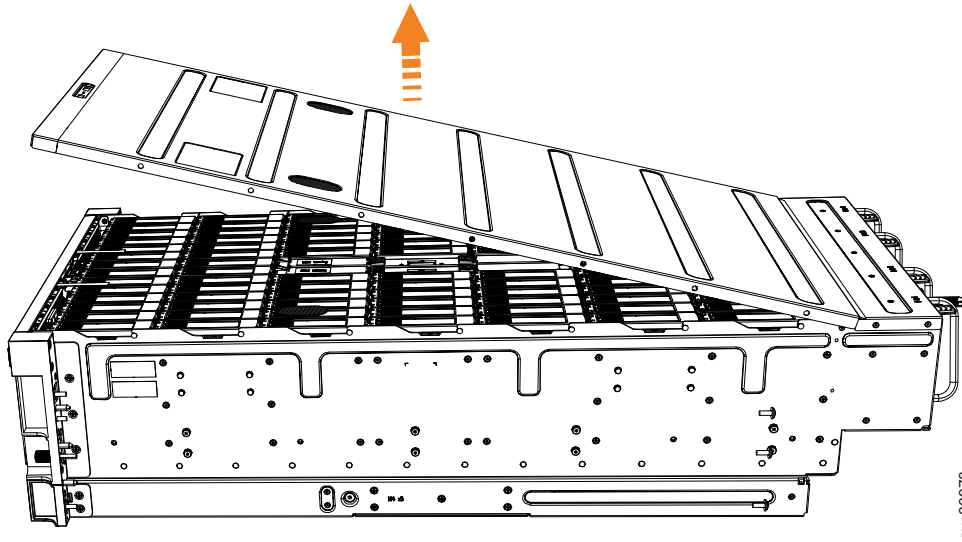

Figure 33. Removing the 2076-92F cover
4. Carefully lift the cover up, as shown in Figure 33 on page 46.